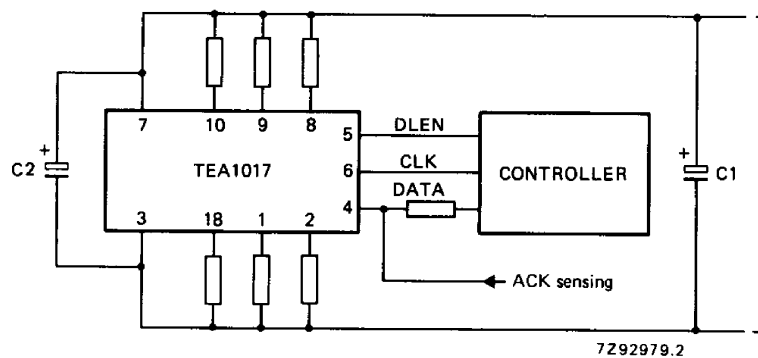

Fig. 5 TEA1017 with 3 loads to  $V_{CC}$   $Q = 0$  and 3 loads to  $V_{EE}$   $Q = 1$ .
2. If no use is made of the acknowledge information it is advised to program the data-output from the controller to LOW during the time ACK is valid. To use the acknowledge information the data-output has to be programmed HIGH. When a push-pull controller device is used a series resistor has to be connected in the data-line between the controller and TEA1017. The ACK may be sensed on the TEA1017-side of this resistor. See Fig. 5.